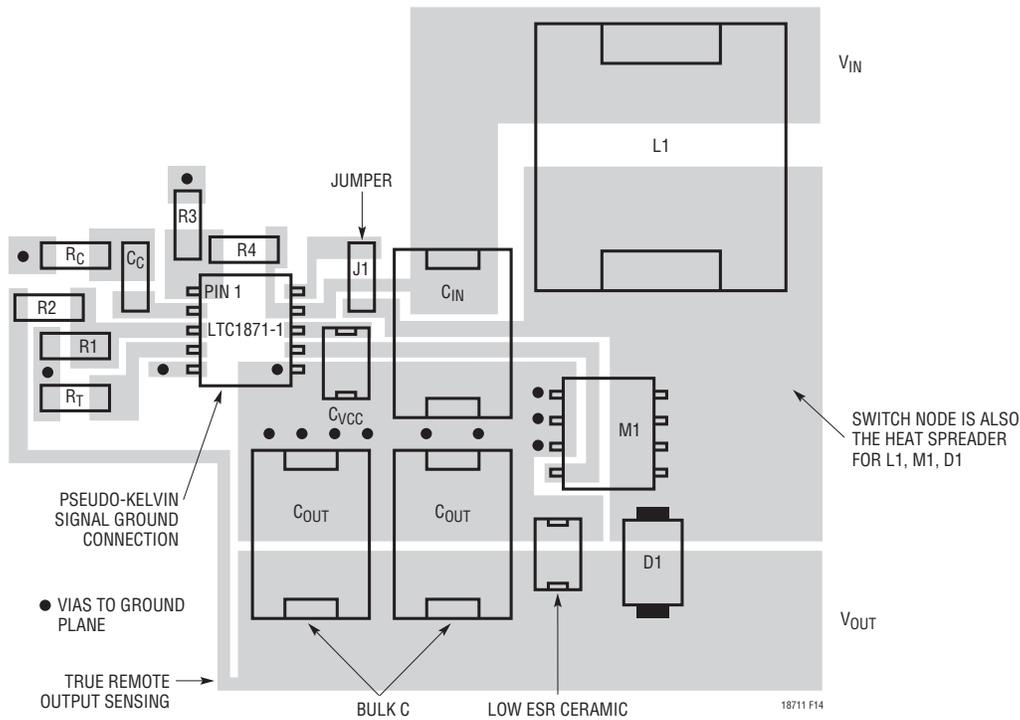

Figure 14. LTC1871-1 Boost Converter Suggested Layout
- Place the small-signal components away from high frequency switching nodes. In the layout shown in Figure 14, all of the small-signal components have been placed on one side of the IC and all of the power components have been placed on the other. This also allows the use of a pseudo-Kelvin connection for the signal ground, where high di/dt gate driver currents flow out of the IC ground pin in one direction (to the bottom plate of the  $INTV_{CC}$  decoupling capacitor) and small-signal currents flow in the other direction.